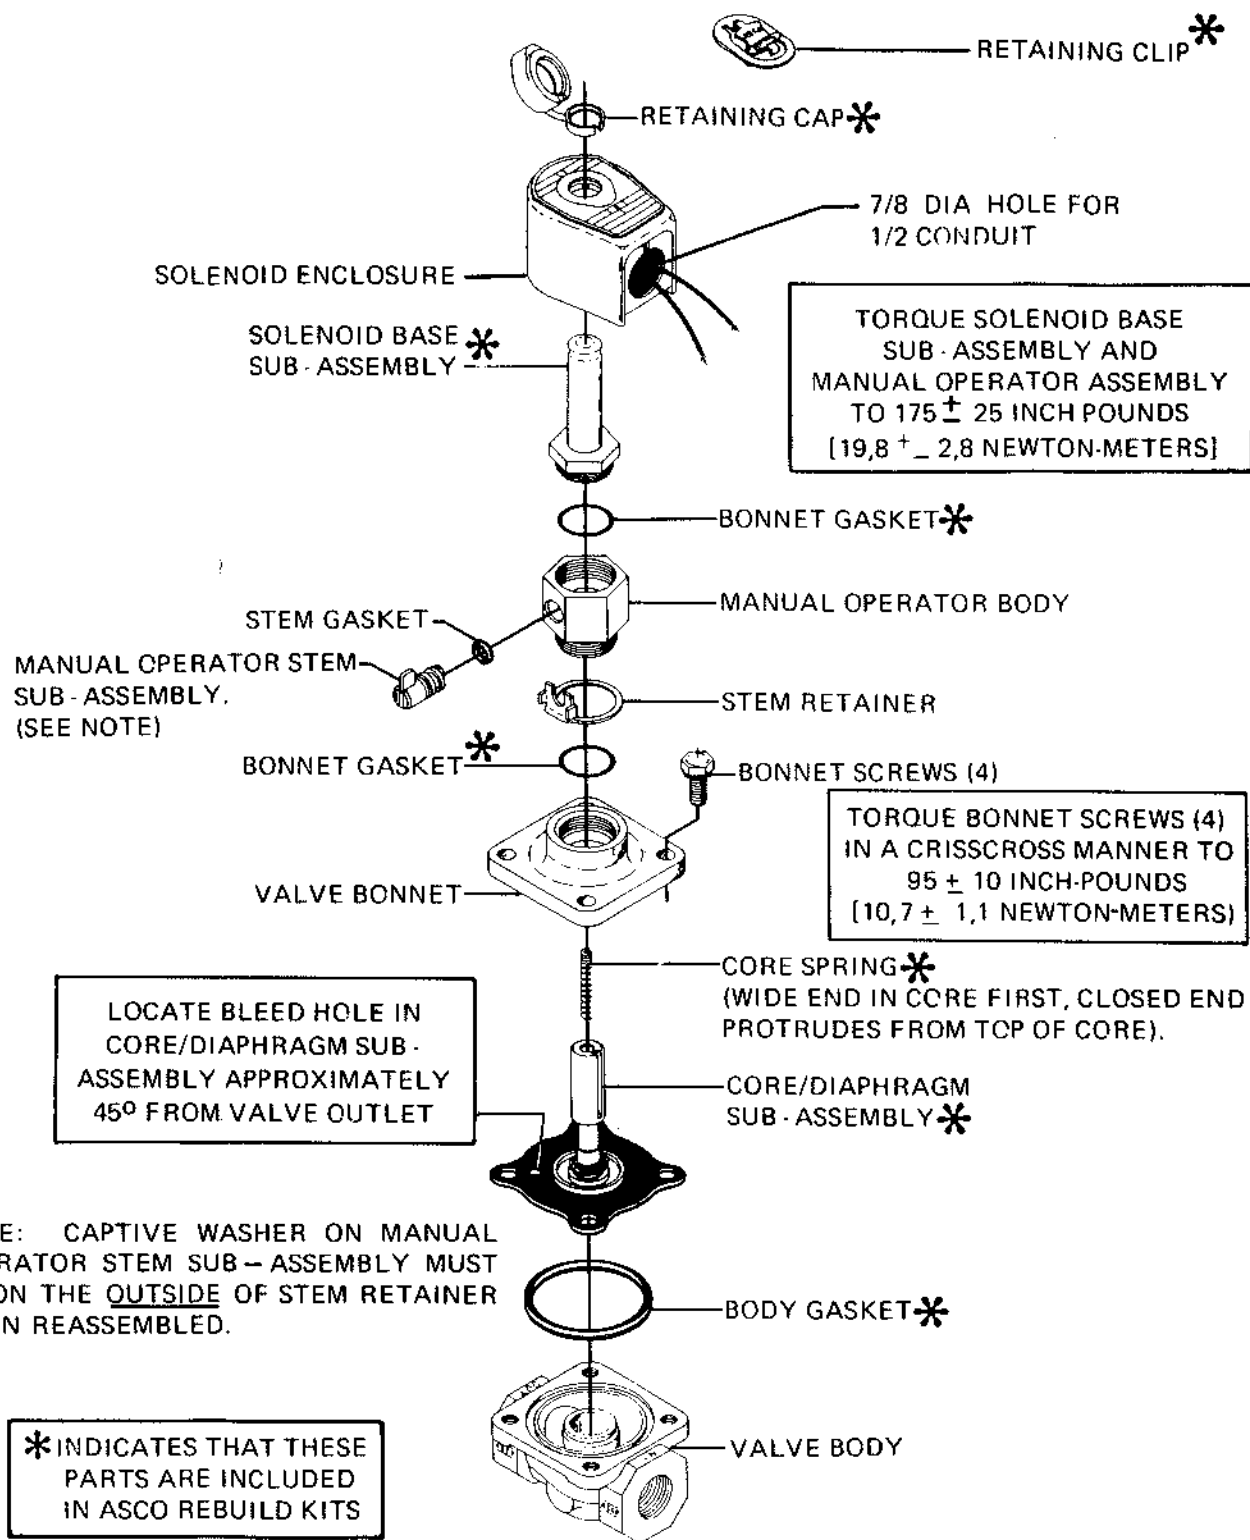

Figure 3. Bulletin 8210 - Manual Operator
**NOTE:** For valves with a manual operator (Suffix MO in catalog number) refer to Figure 3. For standard valves refer to Figure 2.
3. Remove bonnet screws (4), valve bonnet, core spring, core/diaphragm sub-assembly, and body gasket. **CAUTION: Do not damage or distort hanger spring between core/diaphragm sub-assembly.**
7. Replace valve bonnet and bonnet screws (4). Torque bonnet screws (4) in a crisscross manner to  $95 \pm 10$  inch-pounds ( $10,7 \pm 1,1$  newton-meters).